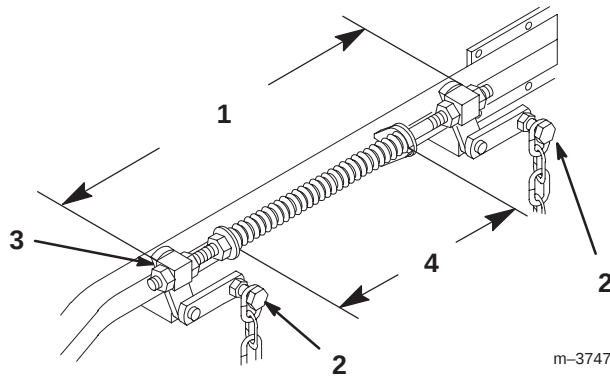

Figure 60
6. Loosen the four top chain bolts in slots. Check the length of the rod/swivel assemblies. Distance from outside of rear swivel to outside of front swivel should be 19-17/32 in. (496 mm) (Fig. 60). Make sure that all four swivels move freely in holes.
- Springs are compressed so the distance between the two large washers should be 11 in. (279 mm) (Fig. 60).
- Adjust by turning nut in front of each spring (Fig. 60). Clockwise will shorten spring; counter-clockwise will lengthen spring.